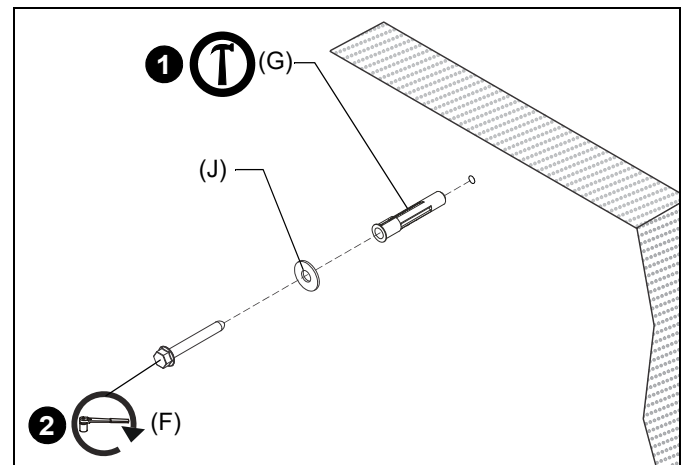

Figure 20
1. Install one UX10X60R anchor (G) into each pilot hole using a hammer, making sure that the anchor is flush with the wall. (See Figure 20)
2. Use one 5/16" x 2-1/2" hex flange head lag bolt (F) and one 5/16" washer (J) through product into each anchor in wall. (See Figure 20)